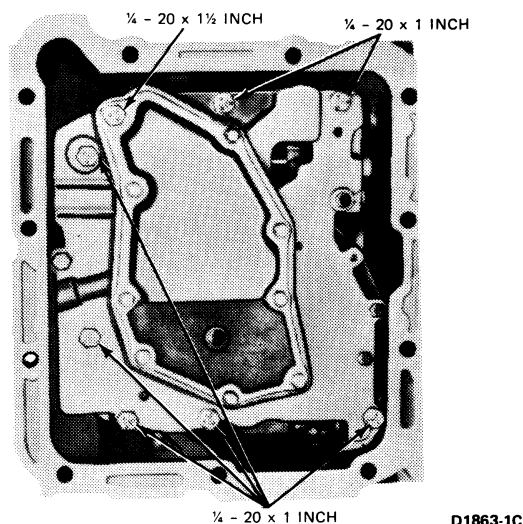

FIG. 14 Control Valve Body-to-Case Attaching Bolts—Typical
6. Remove the control valve body attaching bolts (Fig. 14). Remove the control valve body from the case.